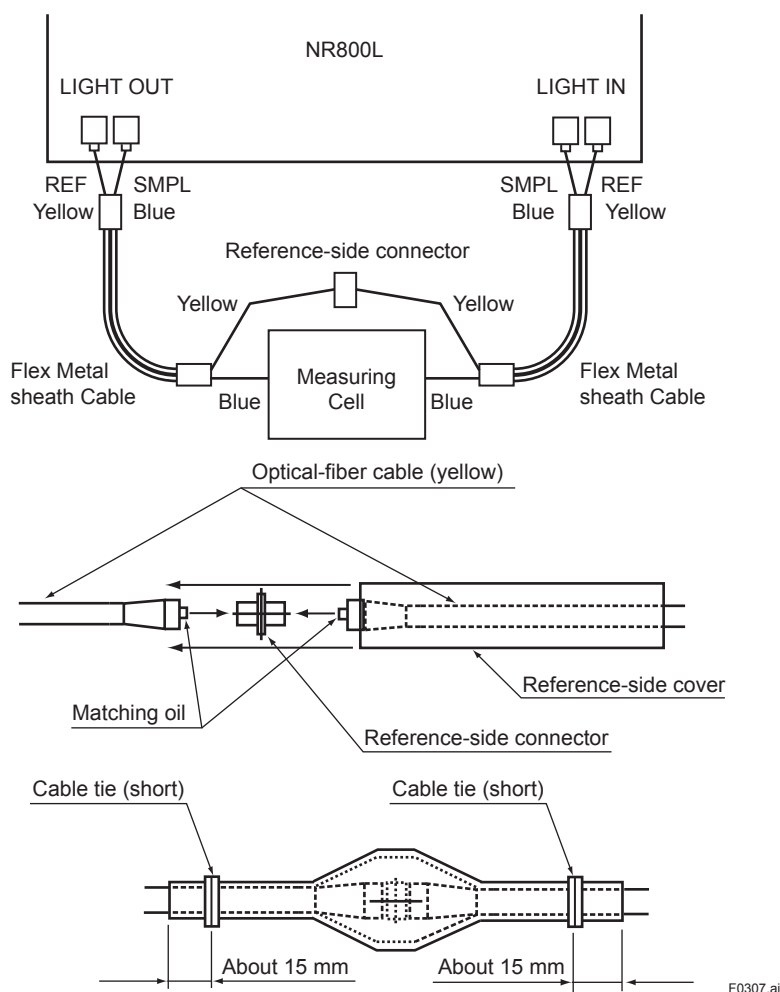

Figure 3.7 Optical wiring using flexible metal sheath cable
Connect the two-core flexible metal-sheath cable as shown in Figure 3.7.
- In a dirty environment, use the reference-side cover as shown in Figure 3.7. Please purchase it, if necessary, because it is not contained in the contents of fiber cable.